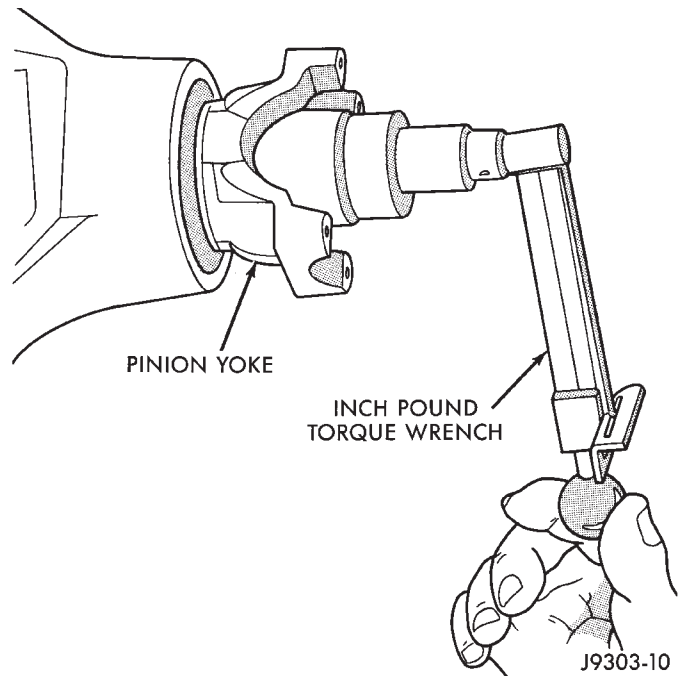

Fig. 24 Check Pinion Gear Rotation Torque
(9) Slowly tighten the nut in 6.8 N·m (5 ft. lbs.) increments until the required rotating torque is achieved. Measure the rotating torque frequently to avoid over crushing the collapsible spacer (Fig. 24).
(10) Rotate the pinion a minimum of ten times. Verify that the pinion rotates smoothly. Check rotating torque with an inch pound torque wrench (Fig. 24). The torque necessary to rotate the pinion gear should be:
(11) Install differential assembly and axle shafts, if necessary.
(12) Align marks made previously on yoke and propeller shaft and install propeller shaft.
(13) Install rear brake rotors and calipers. Refer to Group 5 Brakes, for proper procedures.
(14) Add gear lubricant, if necessary. Refer to Lubricant Specifications of this section for lubricant requirements.
(15) Install wheel and tire assemblies.
(16) Lower vehicle.